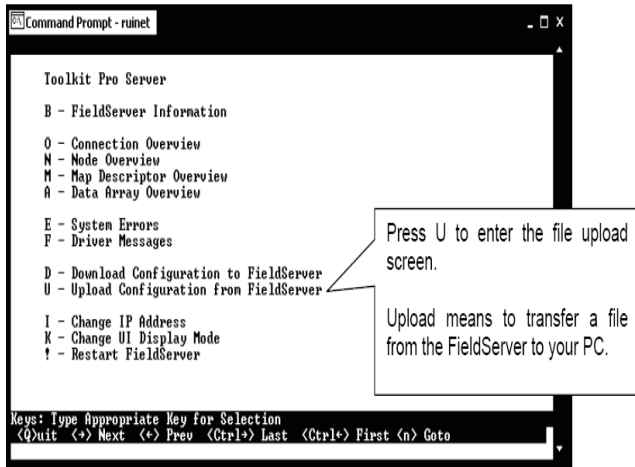
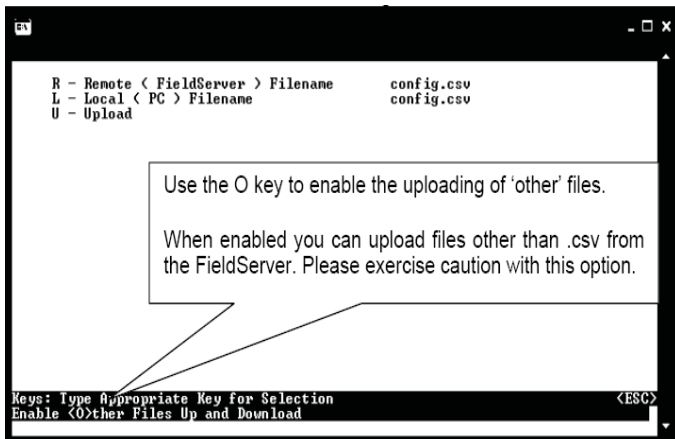

Figure 12: RUINET PT-Link II Main Menu - Upload
Figure 13: RUINET PT-Link II Upload
NOTE: The PT-Link II contains an external interface file otherwise called an XIF file (fserver.xif). The XIF file includes information such as SNVT names and LON network information. This file can be uploaded for use with LON programming software. When uploaded, these files can be located in the same directory that the RUINET executable file is stored and run from. Be sure when uploading that the correct file is specified in the upload window. Refer to **Figures 12 & 13** for screen details. Refer to Appendix B for details on uploading XIF files.
7.) Type the letter  to upload the Config file (**Figure 12**), then type  again (**Figure 13**) for Upload.